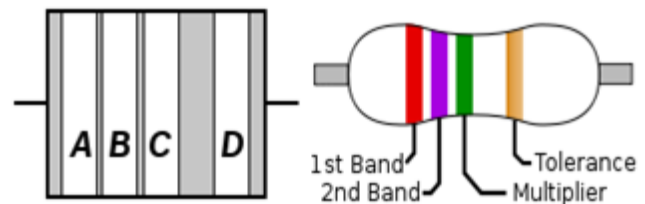

Figure 1 - A typical Resistor's Colour Schema
- Using the color code table (Table 1, 2), read the resistors' value (Figure 1).